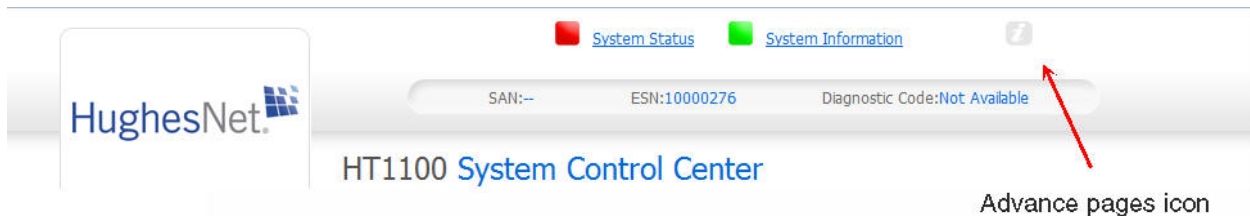

Figure 58: Icon for accessing Advanced pages
- On the System Control Center home page, click the small icon indicated by the arrow in Figure 58. The icon is a link to the Advanced Pages.